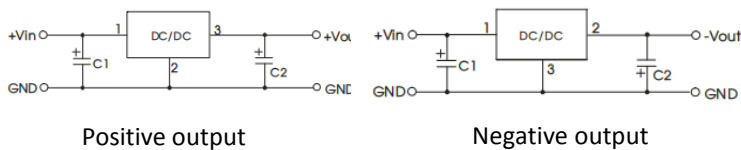

Figure 1: Application circuit
- 1) Typical application: If it is required to further reduce the input and output ripple, a capacitor filter network can be connected at the input and output terminals. The application circuit is shown in Figure 1. However, proper filter capacitor shall be selected. If the capacitance is too large, it may cause startup problems. For each output, under the condition of ensuring safe and reliable operation, the recommended capacitive load values are shown in Table 1.